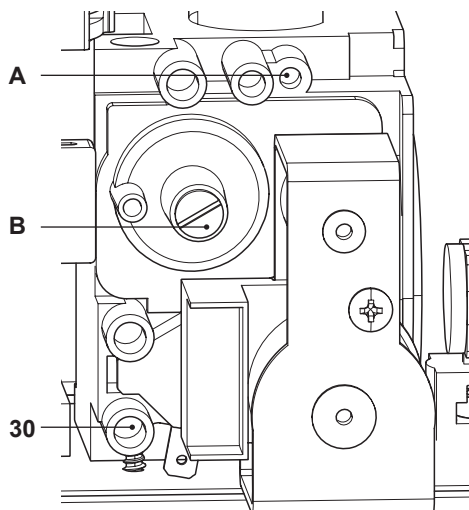

Fig. 7.8
- With the boiler switched on at full rate (maximum output power), check the supply pressure by using the 30 point in Fig. 7.8 and compare the value with that reported on the Gas supply pressure table (minimum inlet pressure) in the "Technical Data" section (page 26 **ADVANCE 25C**).
- Ensure the test nipple 30 in Fig. 7.8 is firmly closed.